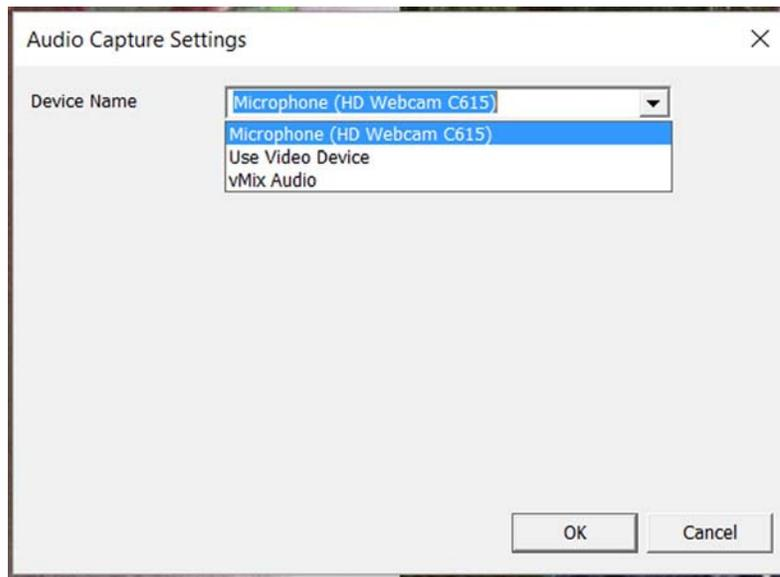

Figure 12 – The AUDIO Capture screen allows you to select the Audio device.
- The AUDIO CAPTURE Settings screen shown in Figure 12 should appear.